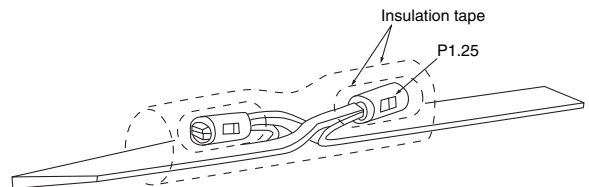

Figure 6
- Wrap each connection with insulation tape, then bend the connected sections in opposite directions as shown in *Figure 6*. Wrap the whole section with insulation tape for protection (see *Figure 6*).